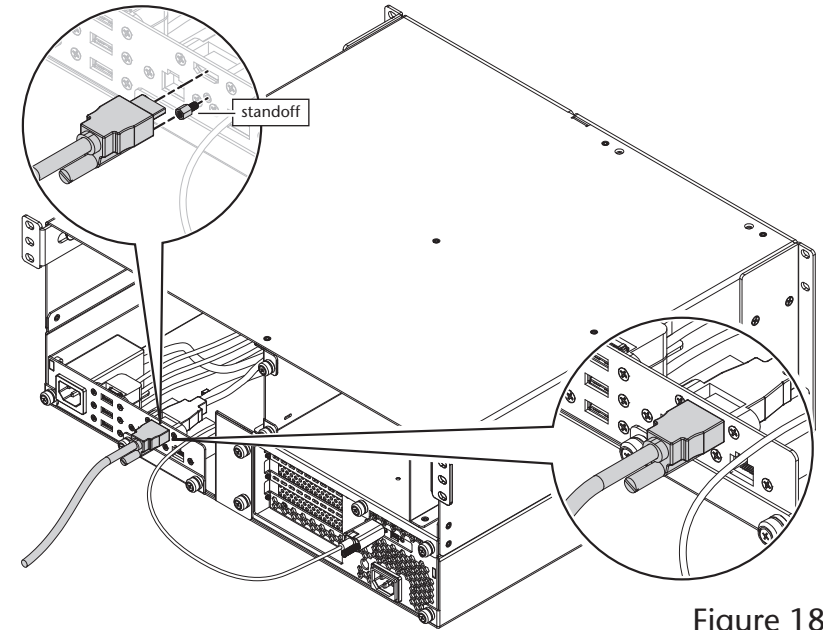

Figure 18
7. OPTIONAL STEP: If you are connecting a monitor with an HDMI input to the xMac Pro Server, screw in the included standoff to the threaded hole just below the HDMI port on the back of the computer mounting module (**Figure 18**). Then, plug in the included HDMI cable to the computer mounting module's HDMI port, securing the locking connector by turning its thumbscrew clockwise. Plug in the other end of the cable to the monitor.